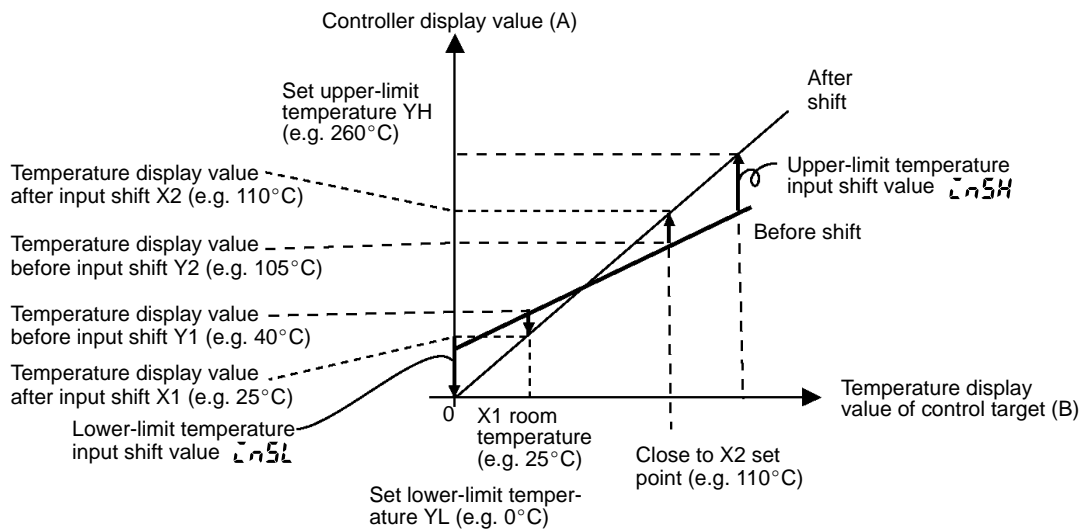

Figure 3: Two-point Temperature Input Shift
- 1, 2, 3... 1. Shift the Controller display value by two points, close to the room temperature and close to the value at which the temperature of the control target is to be controlled. For this reason, bring the control target temperature close to the room temperature and close to the set point, and check the control target temperature (B) and Controller display value (A).
2. Using equations (1) and (2), calculate the upper- and lower-limit temperature input shift values from the display value and temperature to be shifted that was obtained in step 1. Figure 3 shows the effect of a two-point temperature input shift.